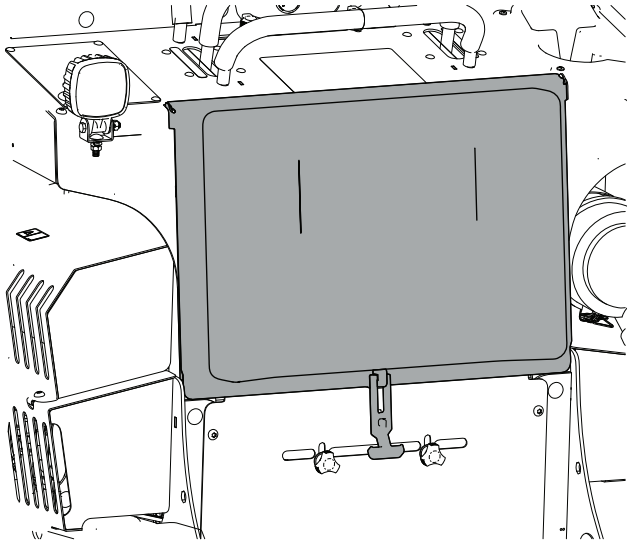

Figure 29
1. Remove the pad from the operator platform (Figure 29).